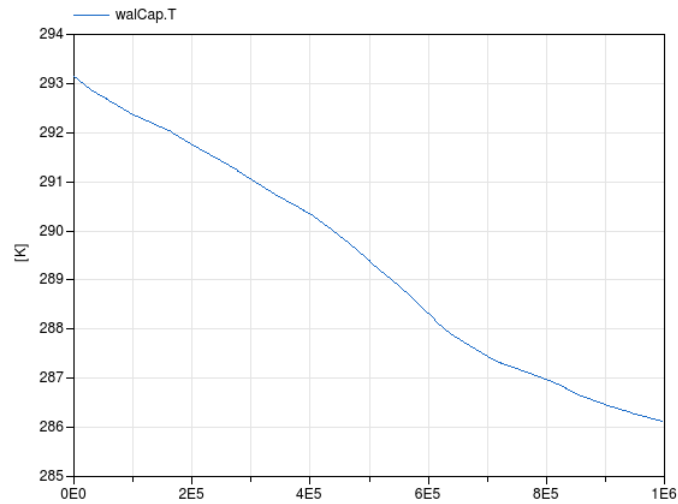

Figure 2: Wall temperature in K as function of time in seconds.
**Reference result** If you correctly added the model of the heat capacitor, connected it to the resistor and added the parameter values for  $C$  and  $R$ 2, then you should be able to simulate the model. To do this, go to the simulation tab (tab bar at the top), open the simulation options 'Setup', and set the model 'Stop time' to 1e6 seconds. You can now simulate the model. You can plot individual variables values by clicking on their name in the variable browser on the left. Now plot the wall capacitor temperature value ' $T$ '. It should look like Figure 2.